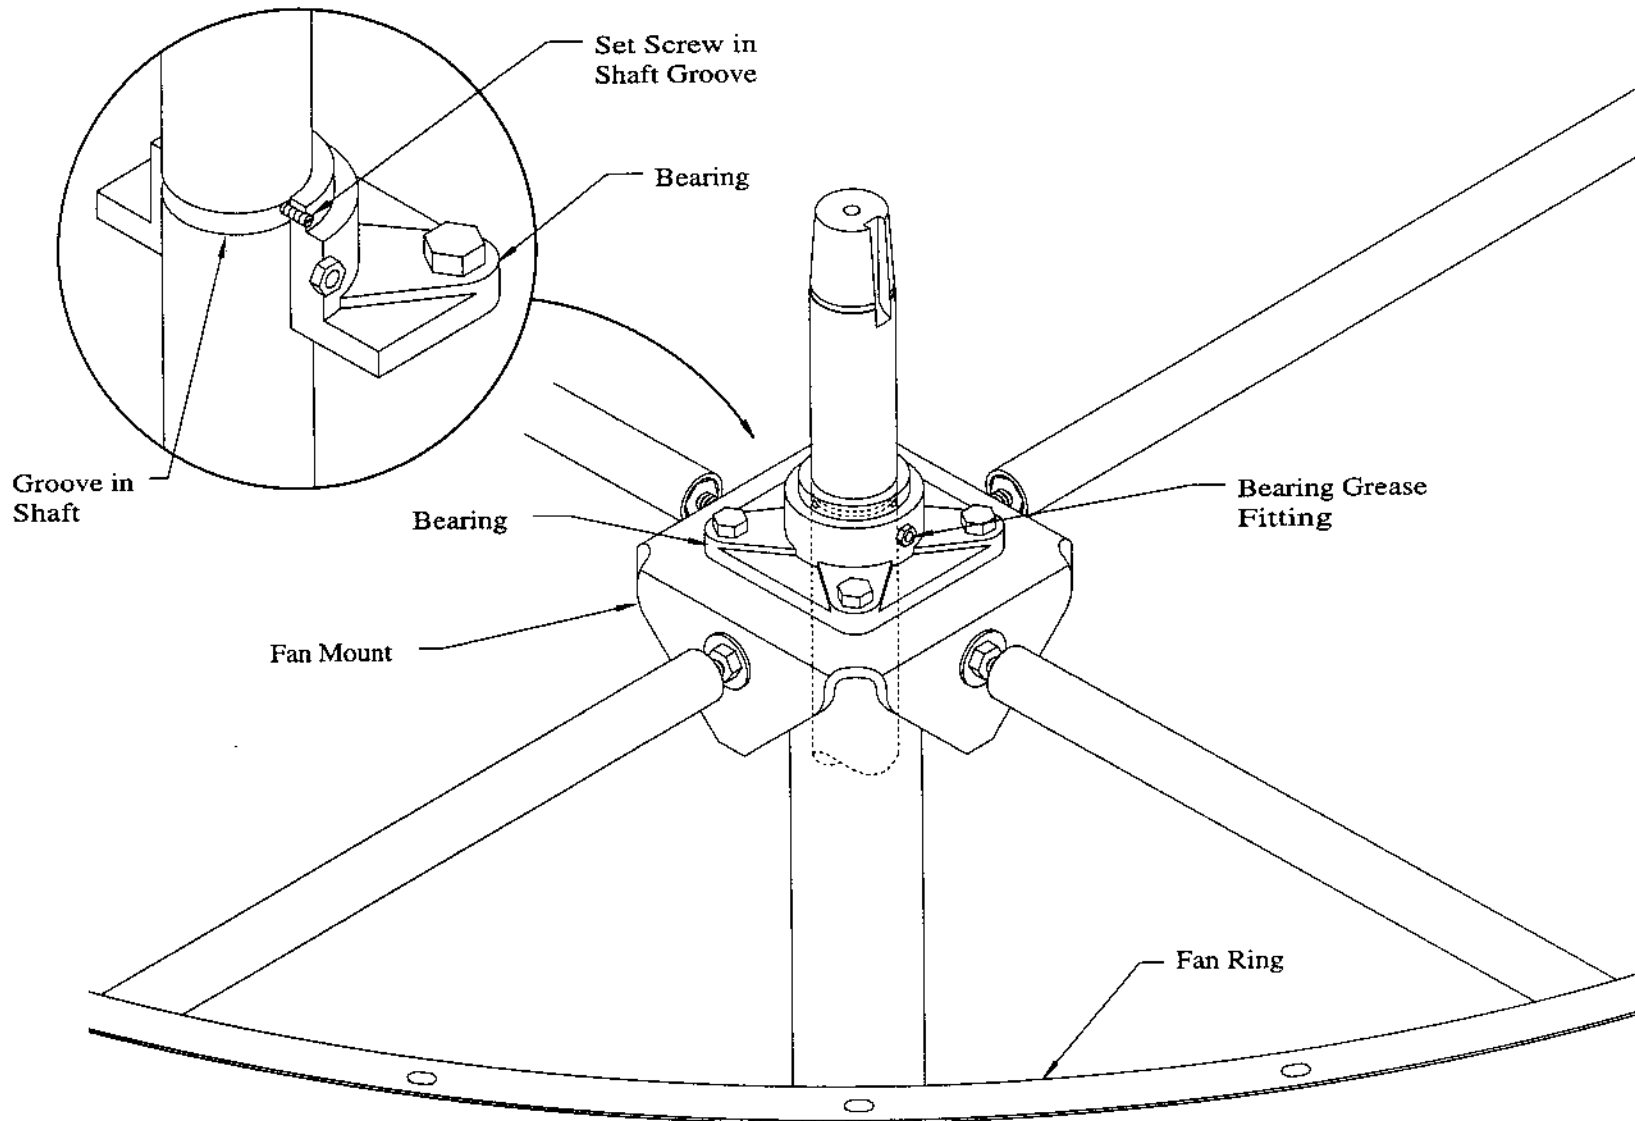

FIG. D2 - FAN SHAFT BEARING
4. Bolt bearing to fan mount, with grease connection facing the machinery mount side channel to which remote grease fitting will be installed. See Fig. D2.